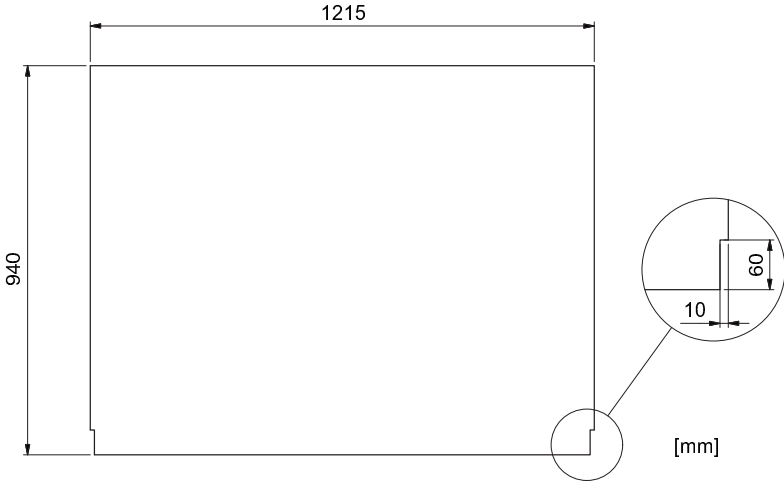
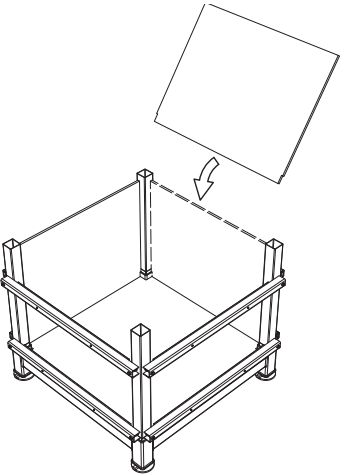

Figure 23. *Dimension of the gravel side board. Note that the board has got notches in both bottom corners.*
Figure 24. *Placement of the side board units.*
5.2 Cut four pieces of 18 mm formwork plywood, complying with EN 636-3, to the format as shown in Figure 23. Place the boards one after another in the Base, with the notches facing down, leaning against the Formwork Supports, see Figure 24. The boards shall be placed onto the Bottom Frame itself and not onto the Bottom Board. Fix the boards to the Formwork Supports with wooden screws. When all the boards are in place and they create a box, go to step 6 for mounting of the Top Frame.